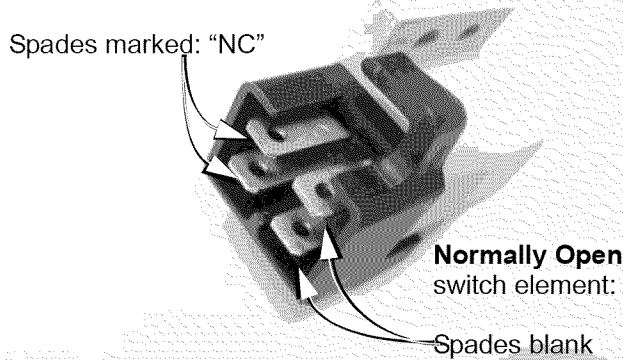

Figure 7.52
- The male spade terminals that are associated with each-other face each-other broad-surface to broad surface. See Figure 7.52.